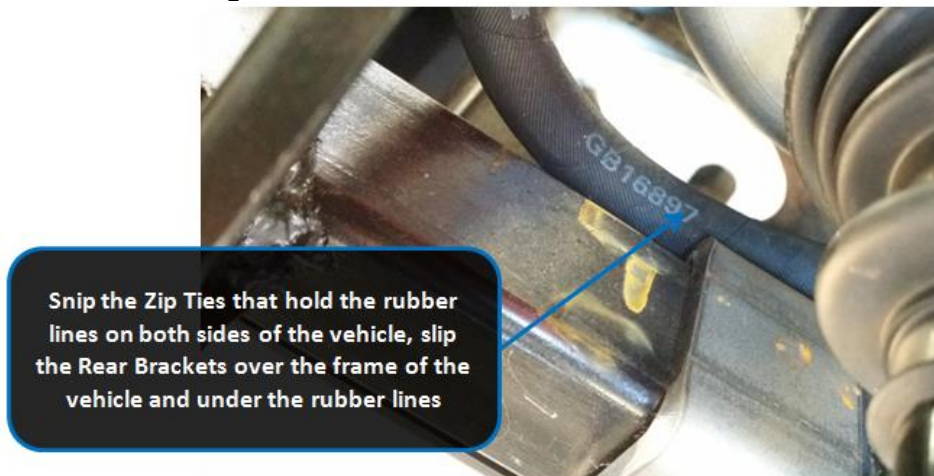

Figure 6
3) With the front of the mount attached, snip the two zip ties that secure the rubber hoses along the inside of the chassis. The hoses are located along the chassis next to the Lower A-Arms. See Figure 6.